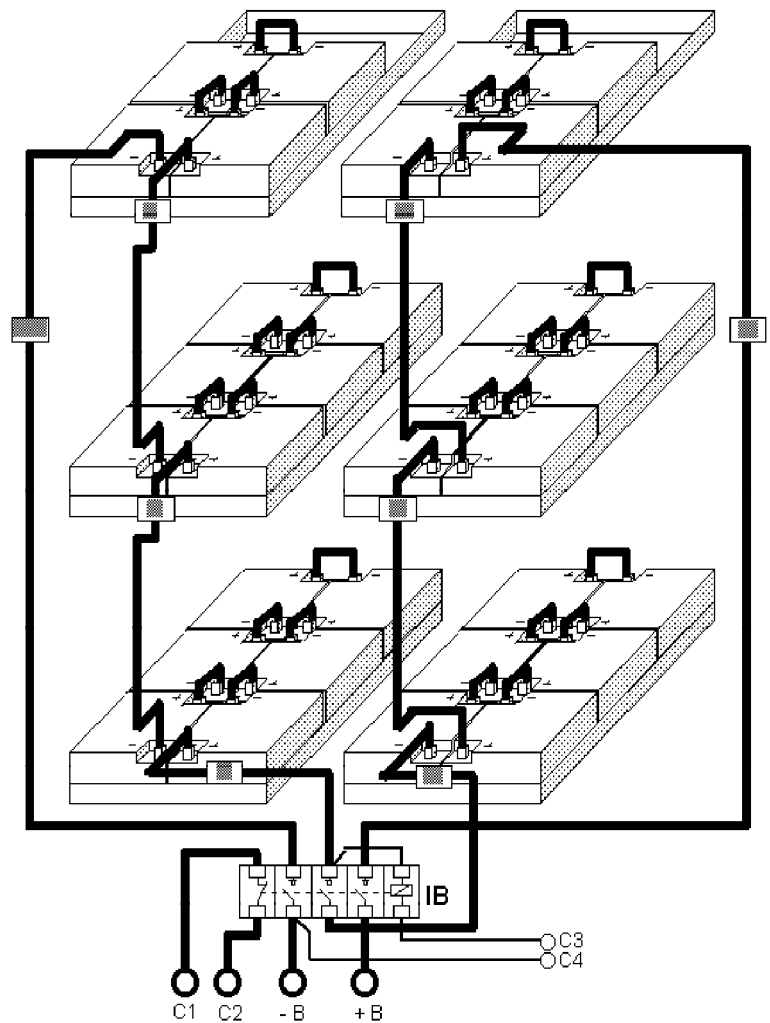

FIG. 1.12.6 B3/38 internal electrical connections
- Connect the battery blocks of the various levels to the battery switch **IB**, and **IB** to the terminals, as shown in FIG. 1.12.5 and FIG. 1.12.6